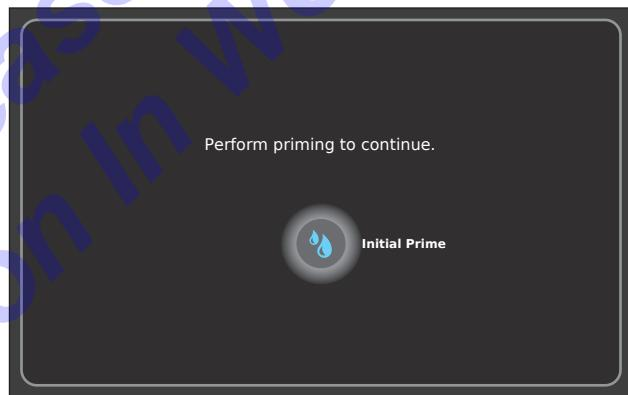
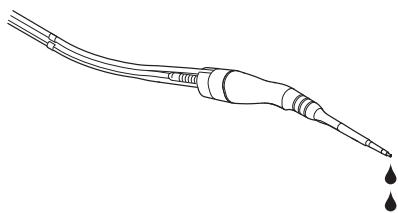

Figure 96 – INITIAL PRIME Pop-up
Figure 98 – Tip Irrigation
- DO NOT use ultrasonic power without irrigation fluid flowing from the tip of the handpiece (Figure 98).
- If the irrigation suction cassette is removed or replaced during a procedure, an INITIAL PRIME pop-up prompt will appear (Figure 96). Touch the INITIAL PRIME button. Make sure irrigation fluid is present at the tip (Figure 98).
2. Make sure irrigation fluid is present at the tip (Figure 98).